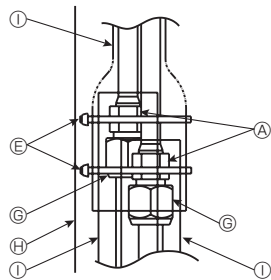

Fig. 3-11
- (3) Cover the joint with a pipe cover, and fix them with a band Ⓔ. (Fig. 3-11)